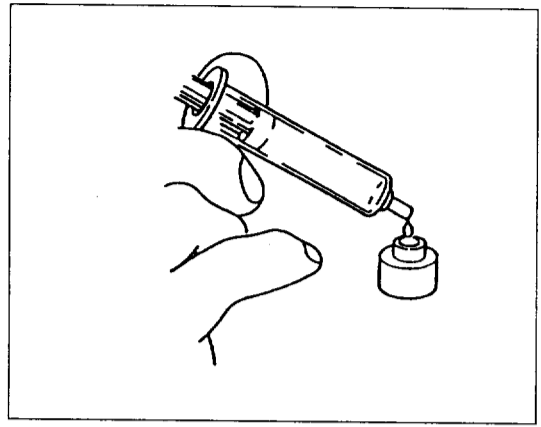

Figure 6-36
- (1) Place several drops of water on the hard contact lens holder. (Figure 6-36)